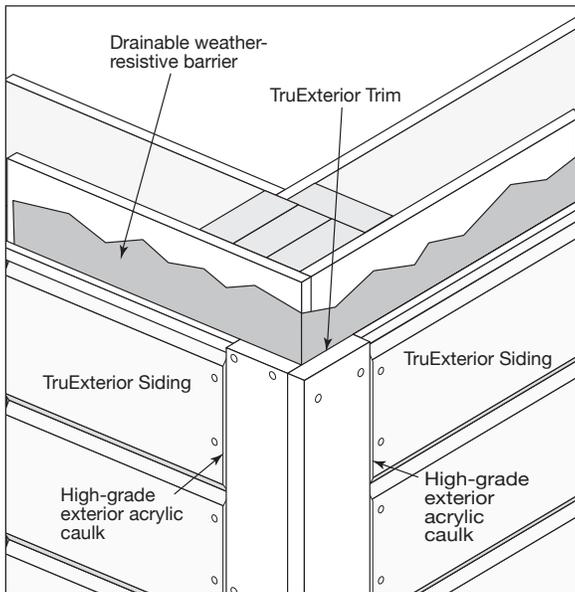

Fig. 9
- Secure each trim piece with 2 nails every 16 inches along the length of each piece of trim, staggering the nail pattern slightly to prevent opposing nails from contacting each other (**Fig. 9**)
- Butt each course of siding up to the corner trim and secure in place (**Fig. 9**)
- Seal the joint between the outside corner trim and the siding with high-grade exterior acrylic caulk (**Fig. 9**)